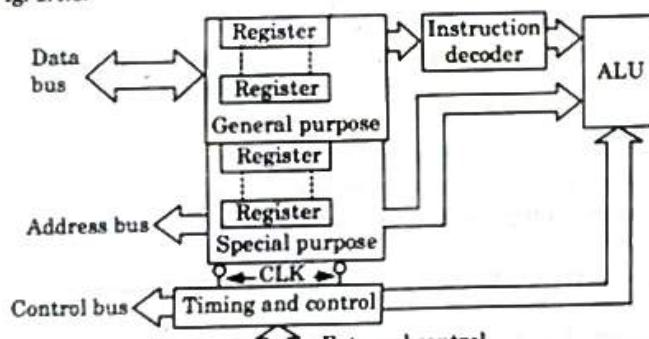

Fig. 1.4.1. General architecture of a microprocessor.
2. The most general purpose architecture of microprocessor is shown in Fig. 1.4.1.